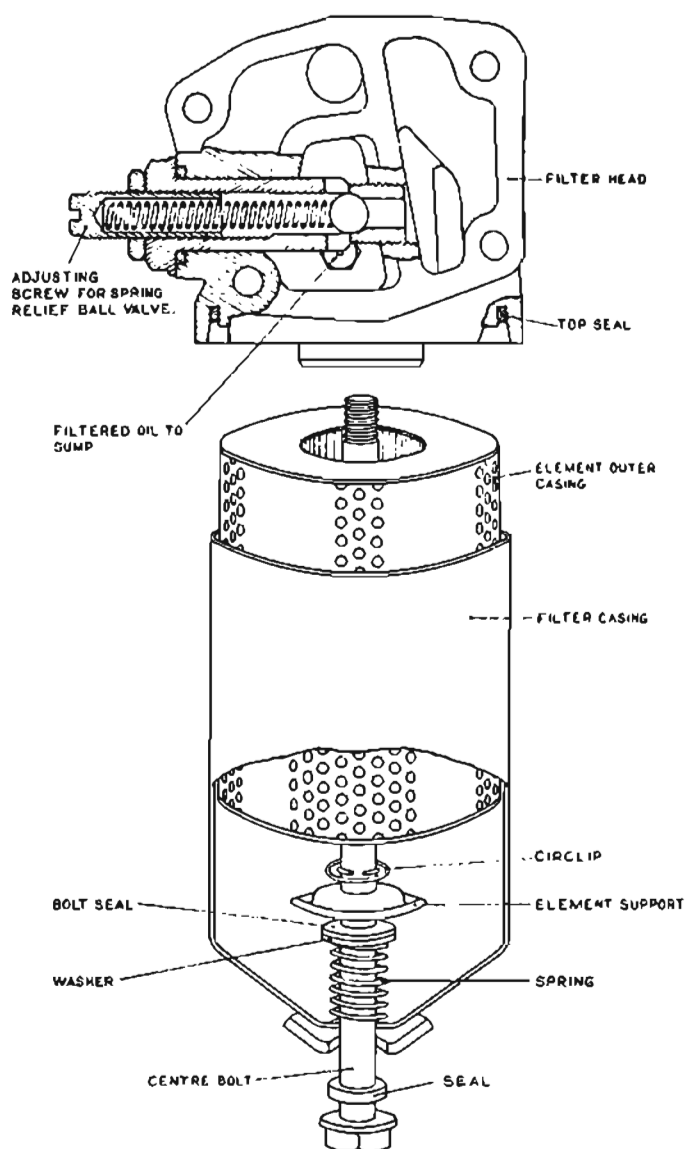

Fig. 29
18. **THE “PURQLATOR MICRONIC” OIL FILTER — TYPE 17F, 5102 (Fig. 29)**